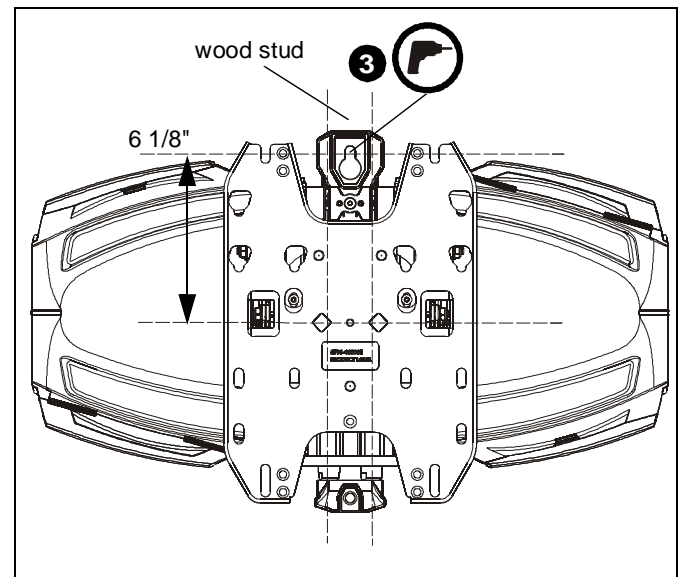

Figure 12
2. Measure 6 1/8" above desired center line and mark a hole at desired mounting location on the center of wood stud. (See Figure 12)
NOTE: Hold mount up to wall at desired mounting location if unsure about where the center line will be. The center line of the mount will coincide with the center line of the display. (See Figure 12)
3. Drill one 13/64" hole at location marked in Step 2. Hole should be 2" in depth. (See Figure 12)